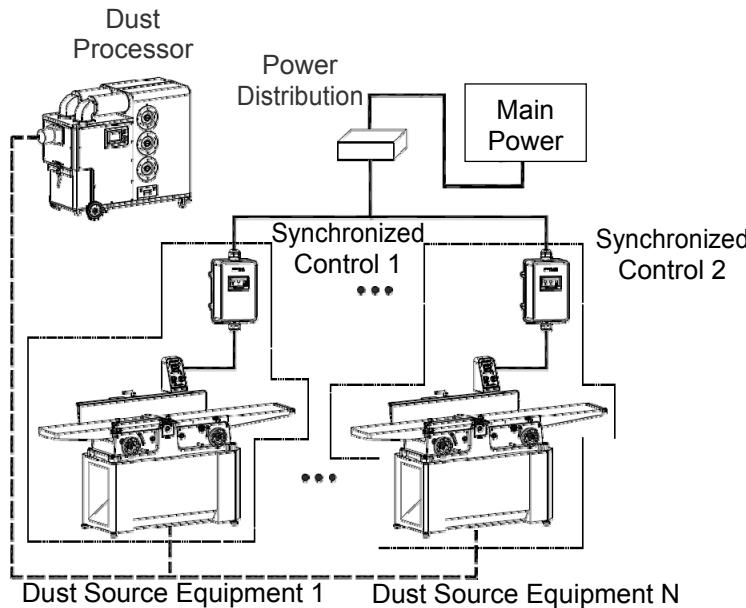

Fig. 10
**Installation Mode B:** one dust processor + multiple synchronized controls + multiple dust source equipment, as shown in Fig. 10;